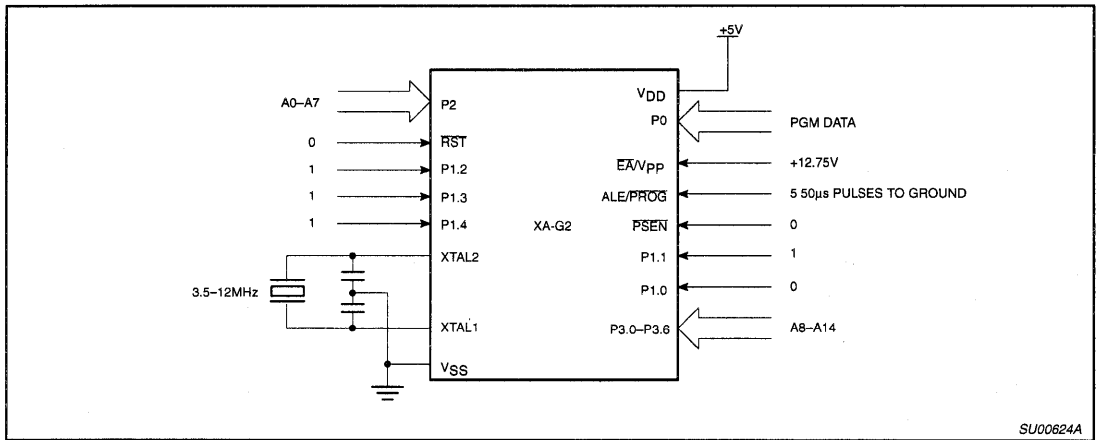
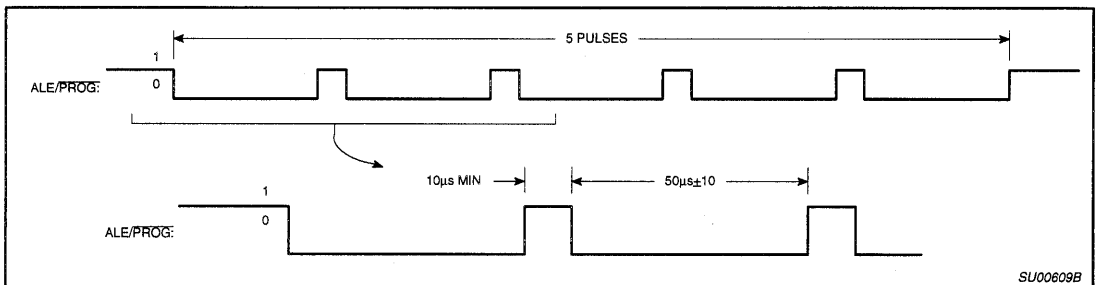
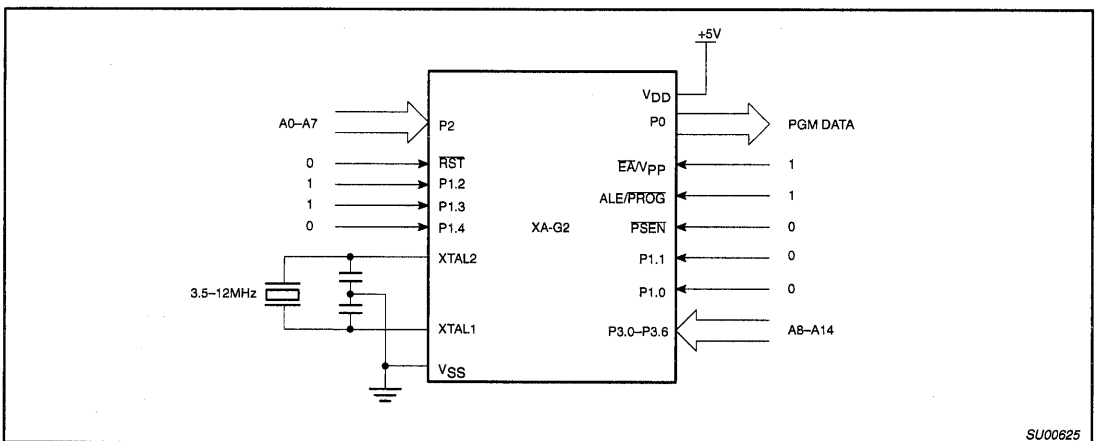

Figure 31. Programming Configuration for XA-G2
Figure 32. PROG Waveform
Figure 33. Program Verification for XA-G2
Table 6 shows the logic levels for reading the signature byte, and for programming the code memory and the security bits. The circuit configuration and waveforms for quick-pulse programming are shown in Figure 31. Figure 33 shows the circuit configuration for normal code memory verification.
The setup for microcontroller quick-pulse programming is shown in Figure 31. Note that the XA-G2 is running with a 3.5 to 12MHz oscillator. The reason the oscillator needs to be running is that the device is executing internal address and program data transfers.
The address of the EPROM location to be programmed is applied to ports 2 and 3, as shown in Figure 31. The code byte to be programmed into that location is applied to port 0. RST, PSEN and pins of port 1 specified in Table 6 are held at the 'Program Code Data' levels indicated in Table 6. The ALE/PROG is pulsed low 5 times as shown in Figure 32.
If security bits 2 and 3 have not been programmed, the on-chip program memory can be read out for program verification. The address of the program memory locations to be read is applied to ports 2 and 3 as shown in Figure 33. The other pins are held at the 'Verify Code Data' levels indicated in Table 6. The contents of the address location will be emitted on port 0.
- * FOR PROGRAMMING CONDITIONS SEE FIGURE 32.
- FOR VERIFICATION CONDITIONS SEE FIGURE 33.